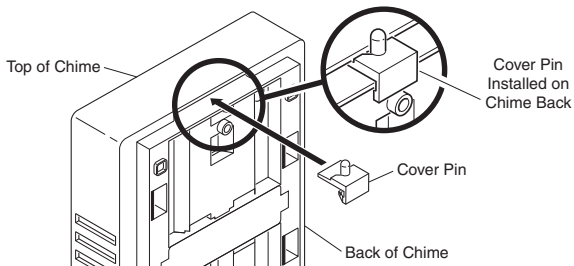

Figure 6
1. Slide cover pin onto rear of chime as shown in Figure 6. Pin must be assembled to base prior to mounting base to wall (pin may be pre-assembled).